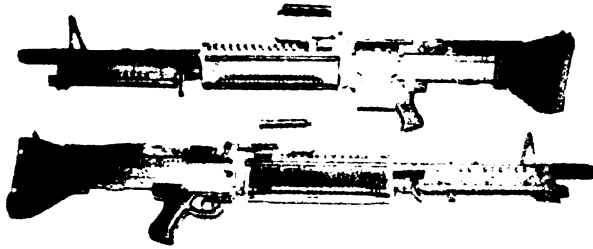

Figure 9
9. Identify The M60. (See fig. 9.)